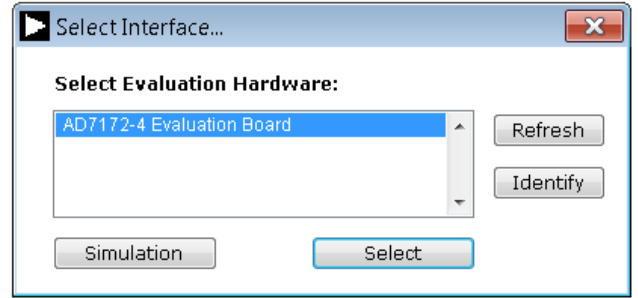
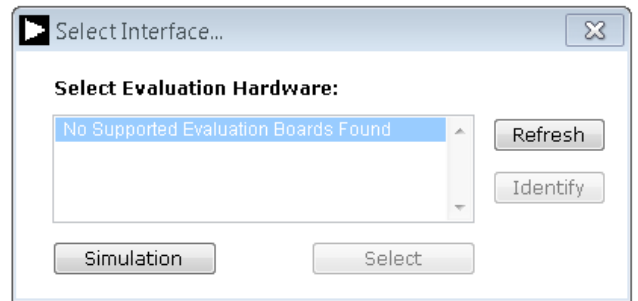

Figure 12. AD717x Evaluation Board Selection
Figure 13. Evaluation Board Selection, No Board Connected
2. The dialogue box in Figure 12 appears; select **AD7172-4 Evaluation Board**. The main window of the software box displays as shown in Figure 15.
3. If the **EVAL-AD7172-4SDZ** evaluation system is not connected to the USB port via the **SDP-B** when the software is launched, the software displays the dialog box shown in Figure 13. Connect the evaluation board to the USB port of the PC; wait a few seconds, click **Refresh** and the option shown in Figure 12 appears.
The Evaluation Mode indicator displays the current evaluation mode. To switch between modes, click the **Select Product** button and the dialog box shown in Figure 12 appears.